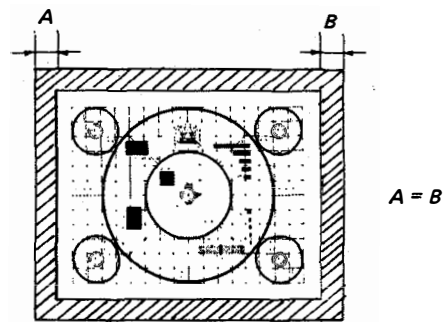

Fig. 23-4
8. Adjust RV26 on the DA board so that the outside raster portions of the picture become equal at the right and the left sides as shown in Fig. 23-4.